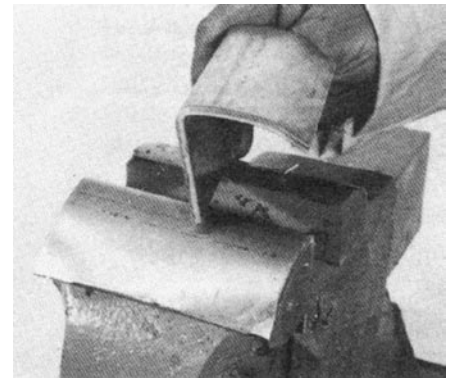

Figure 4-1 Aluminum plates in vise.
4.2 Use bench vise to hold pump while disassembling and reassembling. Cushion vise jaws with soft aluminum plates to prevent scratching the fluid body. See Figure 4-1. Position pump in vise with tube (48) to the front of